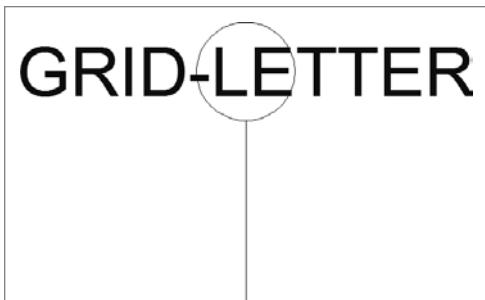

FIGURE 9.5 The first attribute definition placed in the grid circle
- GRID-LETTER is centered over the circle (see Figure 9.5), and the ATTDEF command ends.